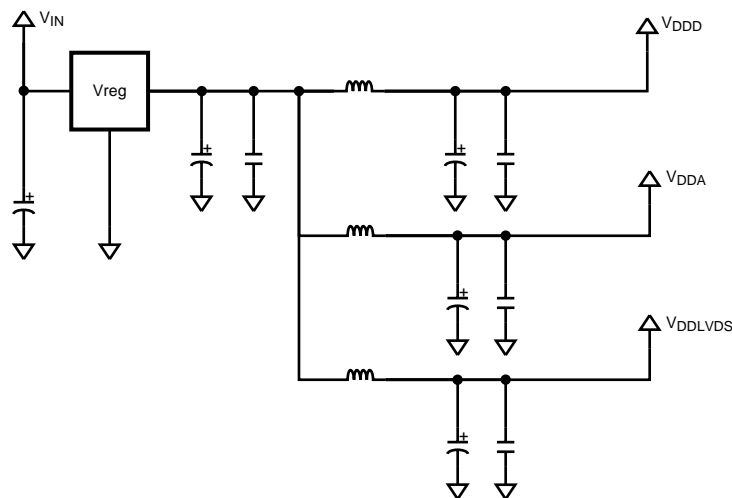

Figure 1. Recommended Setup
- (1) Static voltage levels on VDDD must be at the same voltage or slightly higher than VDDLVD or VDDA. Therefore, driving all three power supplies from a common linear voltage regulator is recommended. Please see Figure 1.